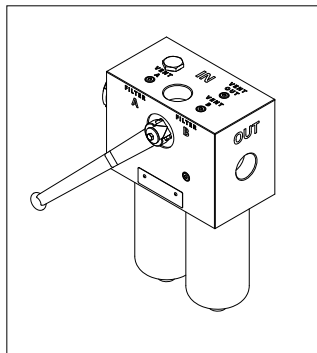

fig. 1
- (Fig. 1) Establish which filter side is in operation (WASTE SIDE) by referring to the indications on the head front. The switching lever is oriented to the side of the filter which is not in operation (NEW SIDE). The air in the system could cause vibrations, back pressure, or components damages